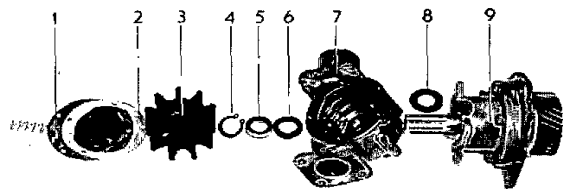

Fig. 191. Sea water pump
4. Place the new ceramic ring (6, fig. 191) in the pump housing with the rubber casing downwards. **NOTE!** The ceramic ring must not come into contact with grease or be touched with the fingers since this can impair the sealing. Lay a piece of transparent plastic foil over the ceramic ring as protection and then press the ring into position using the handle of a hammer.
5. Check that the ring (8) is located on the journal. Fit the pump housing in place without tightening the bolts.
6. Press down the brass sleeve with the carbon ring (5) facing the ceramic ring. **NOTE!** The carbon ring must not come into contact with grease or be touched with the fingers. Place the circlip (4) on the shaft.